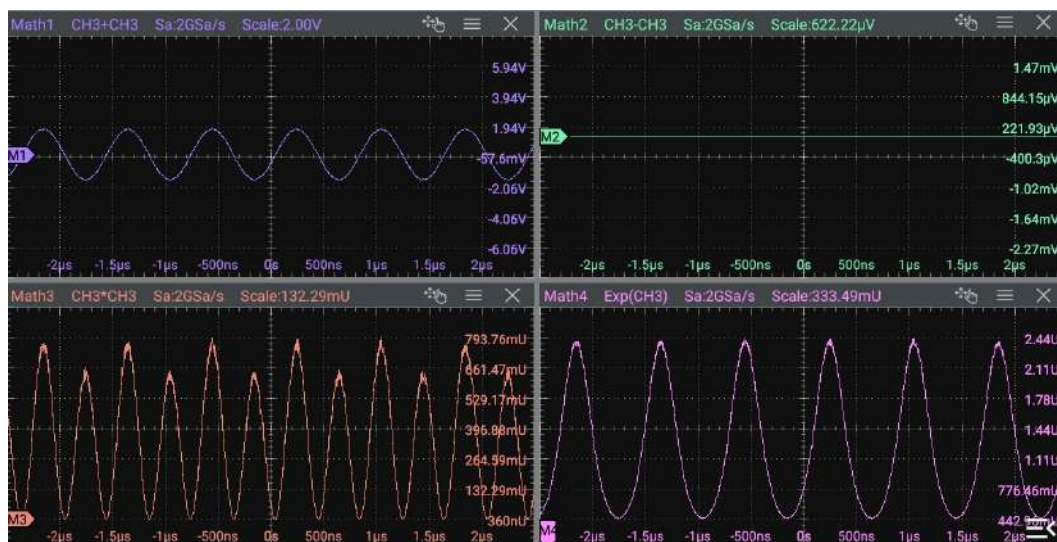

Figure 9.2 Waveform Display Window of the Operation Results
- Click or tap the Math1~Math4 label at the bottom of the screen, and the corresponding math window appears on the screen, as shown in *Figure 9.2*.
In the **Math** menu, click or tap the **Operation** on/off switch to show or hide the waveform display window of the operation results. By default, it is OFF. When "ON" is selected for Math1~Math4, the figure as shown in *Figure 9.2* is displayed on the screen.